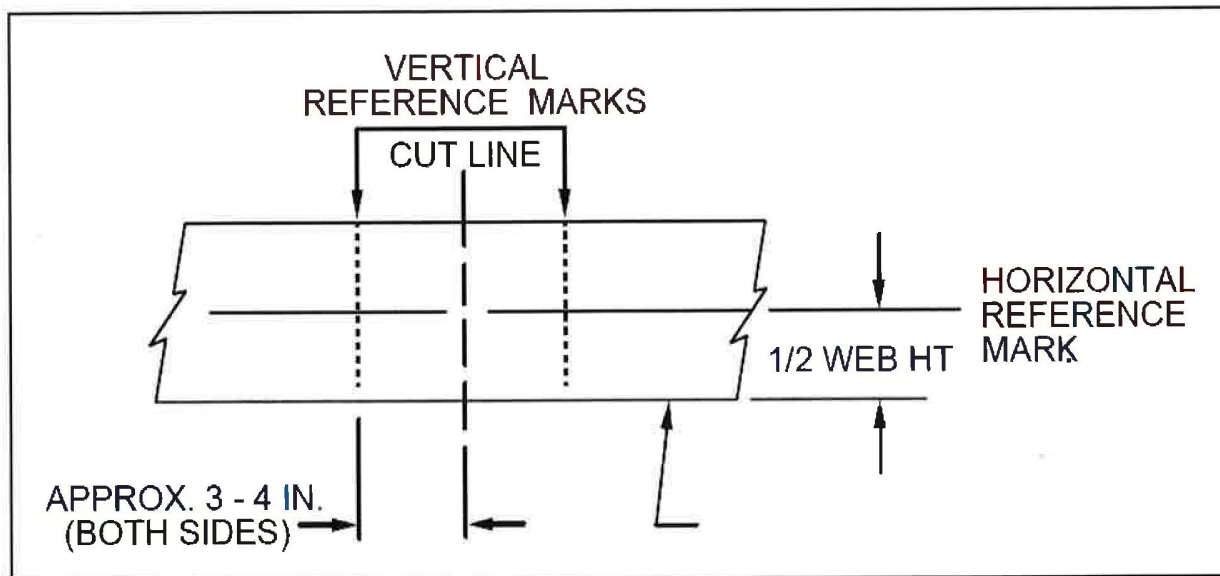

Figure 30 – Horizontal and Vertical Reference Marks
- Scribe or mark the frame for cutting (See Figure 30). All dimensions for gauging or fixturing should be recorded at this time.